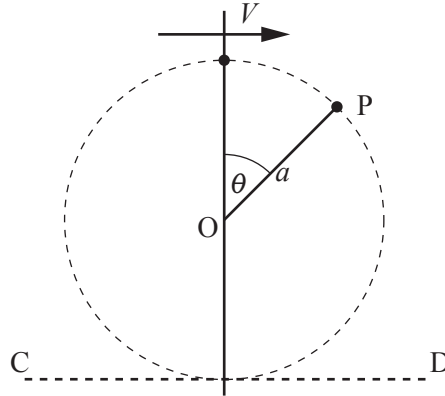

Fig. 1
- 1 A particle P of mass m is attached to one end of a light inextensible string of length a . The other end of the string is attached to a fixed point O. The particle P is moving, with negligible air resistance, in a complete vertical circle with centre O. When P is at its highest point the speed of P is V . The horizontal line CD lies in the plane of the motion and passes through the lowest point of the circular path of P. Fig. 1 shows the particle at a point where OP makes an angle θ with the upward vertical.
- (ii) Given that $V = \sqrt{ag}$, find an expression, in terms of m , g and θ , for the tension in the string when P is in the position shown in Fig. 1. [6]